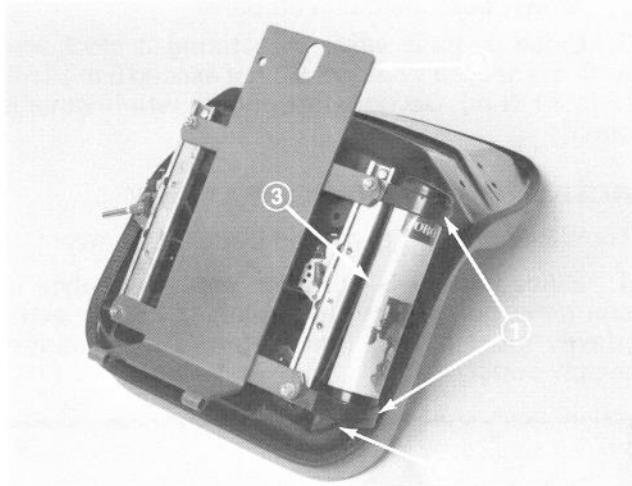

Figure 7
4. Install an R-clamp over right front and right rear threaded studs of seat slide channel (Fig. 7). Mount seat support over all four threaded studs and secure in place with lockwashers and nuts. Install manual tube into R-clamps, insert manual into tube and place cap over tube end (Fig. 7).